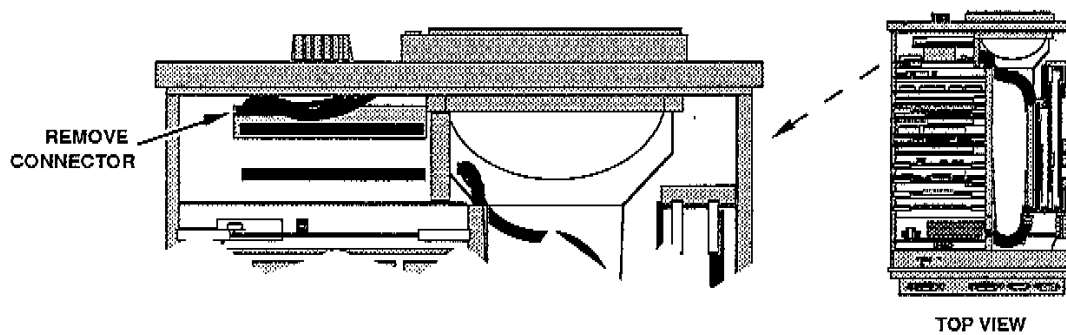

Figure 4-36. Removing the connector from Mother board to Front-panel.
10. Disconnect the connector from the Mother board to the front-panel, see Figure 4-36.